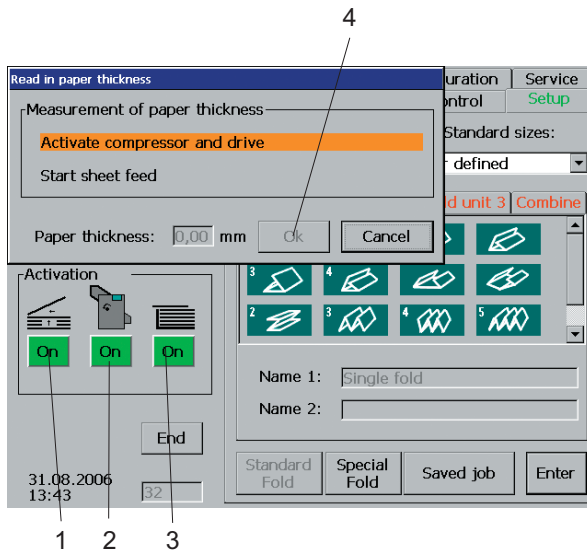

Fig. 21 Measuring the paper thickness
2. Touch the *Compressor* key (Fig.21/1).
3. Touch the *Drive* key (Fig.21/2).
4. Touch the *Sheet feed* key (Fig.21/3).
6. If no double sheet has been fed, confirm with the *OK* key (Fig. 21/4).
7. Touch the *Drive* key (Fig. 21/2).